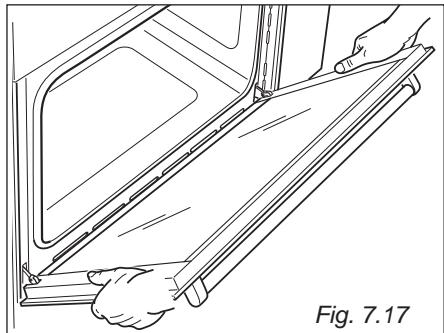

Fig. 7.17
- Hold the door as shown in fig. 7.17.